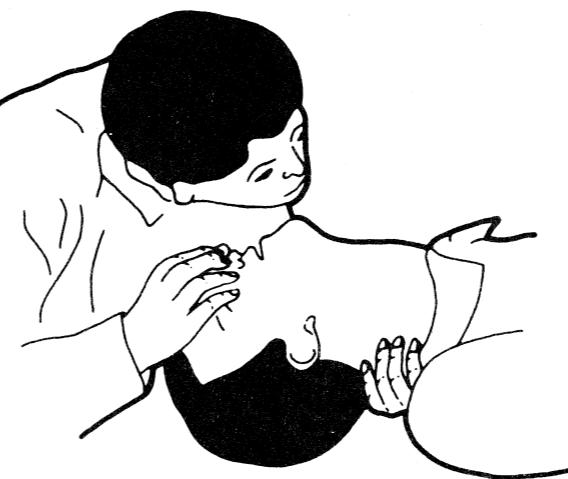

Figure 4.
- b. Remove your mouth and allow the victim to exhale while watching for the victim's chest to fall (See Figure 4).